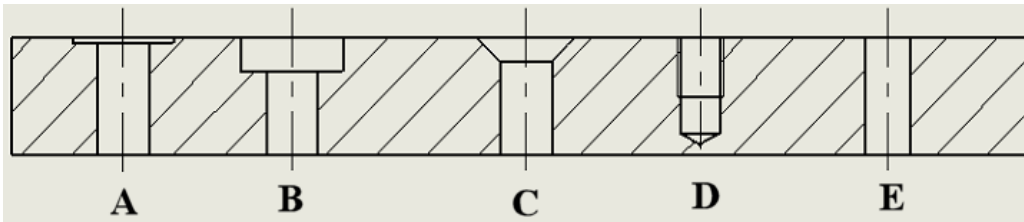

Figure 5: Engineering Features
- Identify the following common Engineering Features listed A to E in Figure 5 below.